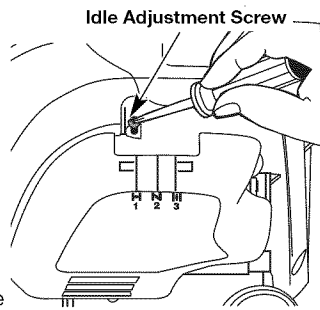

Fig. 32
The idle speed of the engine is adjustable. An idle adjustment screw is between the air filter cover and the engine starter housing (Fig. 32).
2. Release the throttle trigger and let the engine idle. If the engine stops, insert a small Phillips screwdriver in between the Air Filter Cover and the Engine Cover (Fig. 32). Turn the idle speed screw in, clockwise, 1/8 of a turn at a time (as needed) until the engine idles smoothly.